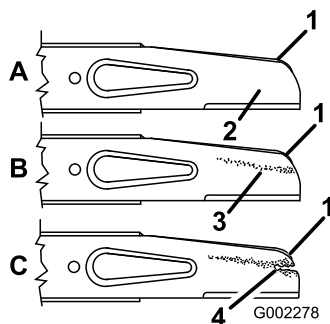

Figure 27
2. Remove the blade bolt, the lock washer, the accelerator, and the blade (Figure 27).